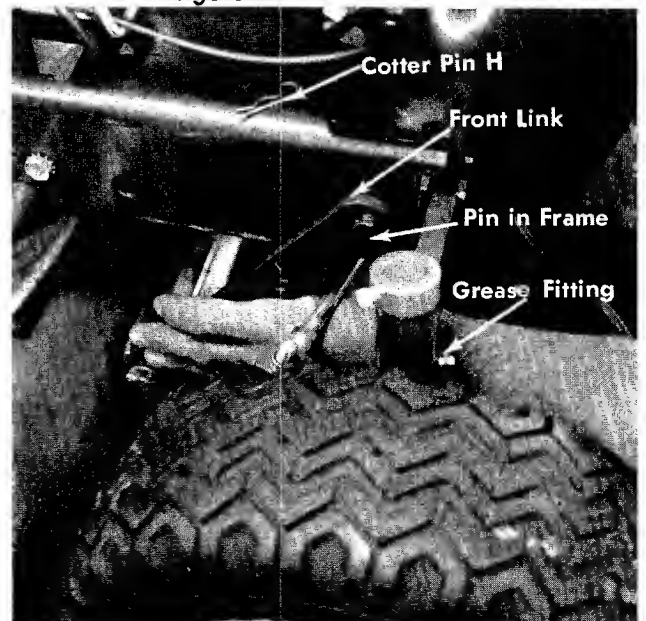

FIGURE 8. FRONT LINK ASSEMBLY
- c. From the front of the rider, grasp both front links and hook them in the pins in frame and secure with cotter pins "H". See figure 8.